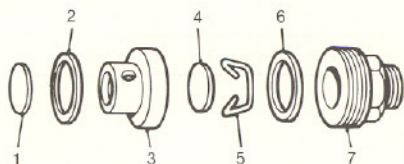

Fig 1. The valve assembly, L and HP single pumps
- 5 Assemble the brass valve disc (4) (see Fig. 1) to the outlet valve cage (3), making sure that the smooth face of the disc faces the valve seat, retain it in position with the circlip (5) which must be located in the groove in the valve cage. The valve must rattle freely when the valve cage is shaken.
- 6 Drop the other valve disc (1) (see Fig. 1) smooth face downwards onto the inlet valve seat in the body of the pump. Insert the thin fibre washer (2), drop the valve cage (3) in position, insert the medium fibre washer (6), then screw in the outlet union (7), and tighten with a $\frac{3}{8}$ -in Whitworth ring or box spanner. Fit the inlet union.